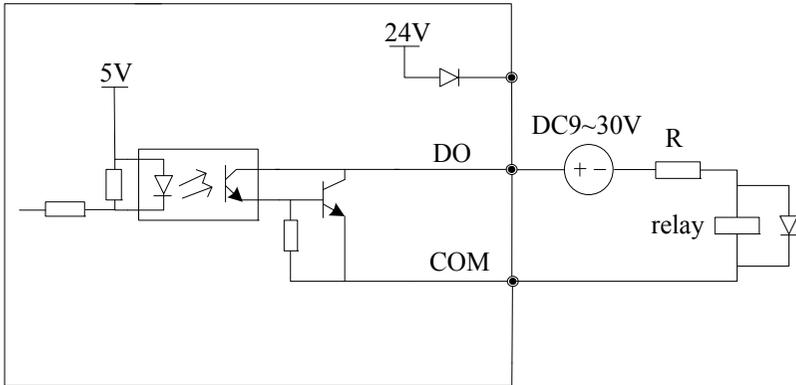

Fig. 2-27 Wiring method 2 of DO as switching output
2) Multi-function output terminals DO as switching output can also use the external 9~30V power supply and the wiring method is shown in Figure 2-27.